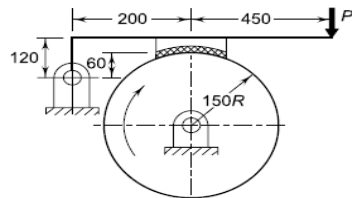

Figure 4 (All dimensions are in mm)
- (b) A single block brake with torque capacity of 15 N-m is shown in Figure 4. The coefficient of friction is 0.3 and the maximum pressure on the brake lining is 1 N/mm². The width of the block is equal to its length. Calculate